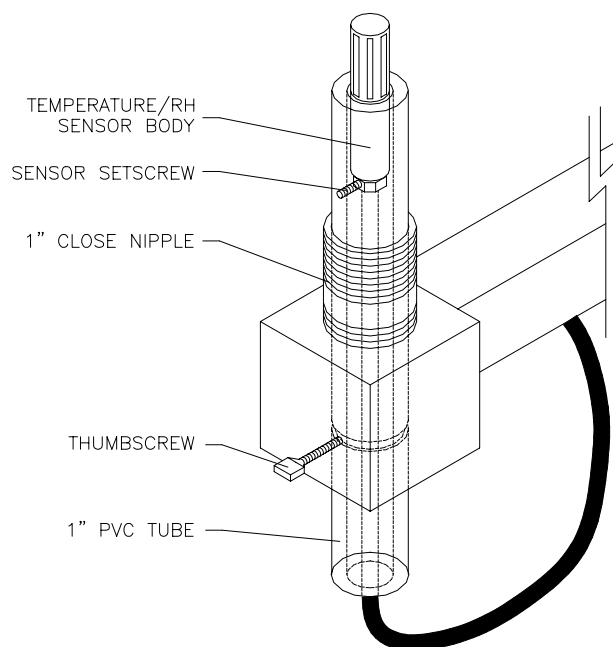

Figure 10-28 T/RH Sensor Removal
6. Loosen the thumb screw at the top of the arm and remove the sensor mounting assembly (1" gray PVC tube) from the arm (see Figure 10-28).